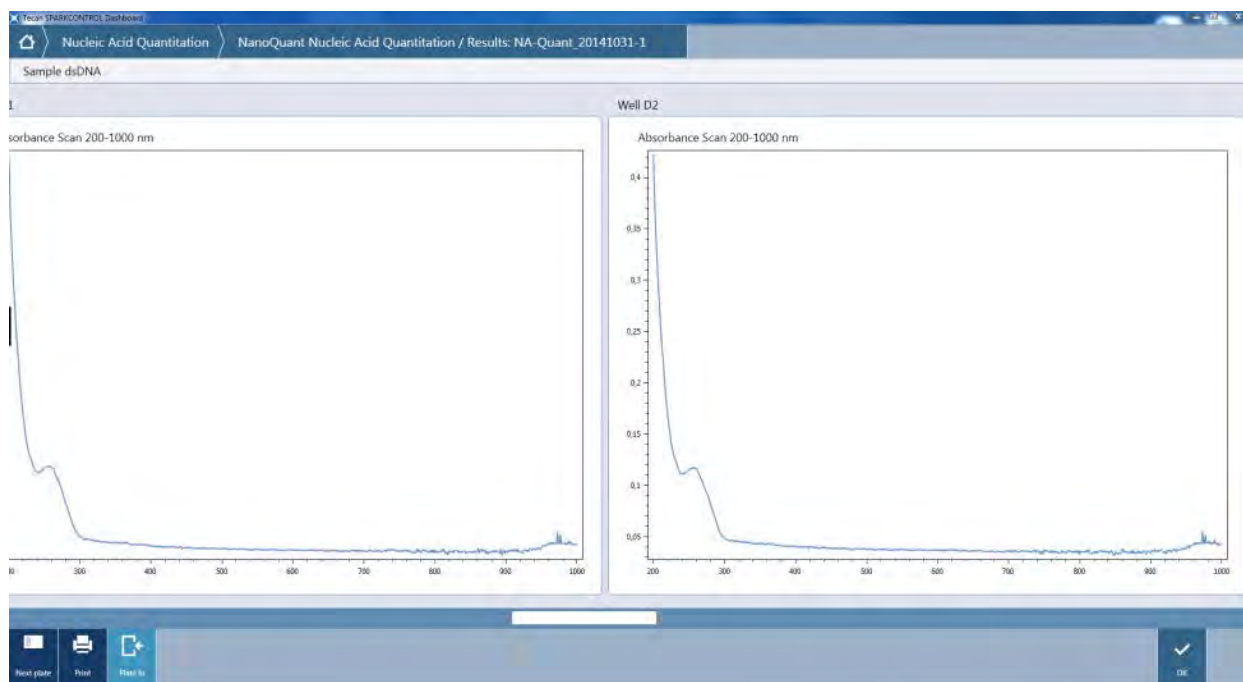

Figure 105: Absorbance scans in the Result window
- Absorbance Scan values according to the defined wavelength range. Use the slider to obtain all of the absorbance scans being measured (Figure 105: Absorbance scans in the Result window).